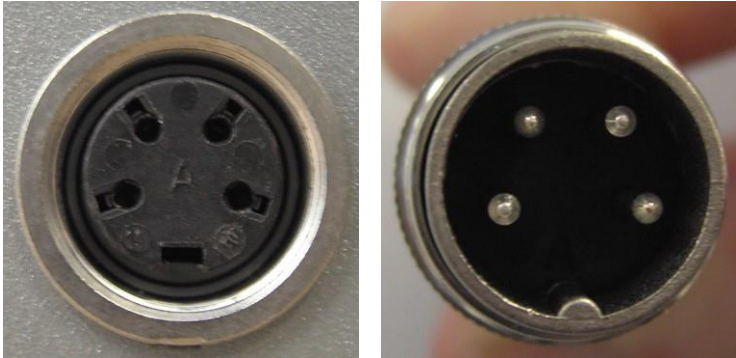

Figure 3-24. Aligning the Pins of the Footswitch's Connector with its Receptacle's Corresponding Holes
2. Align the pins of the footswitch's cable connector with the corresponding holes of the footswitch receptacle on the system's rear side, as shown in Figure 3-24.